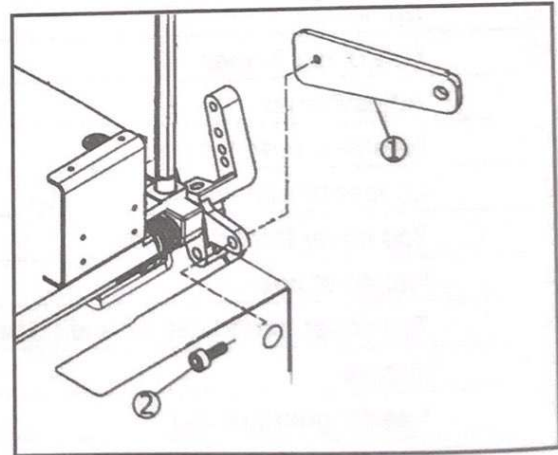

Fig.2
設置壓腳連接軸①螺絲②。(Fig.2)
Set the presser foot connecting lever ① with the screw ②.(Fig.2)